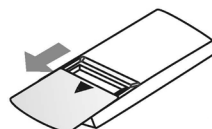

Fig.1
- Slide to open the cover according to the direction indicated by the arrowhead (Fig.1)